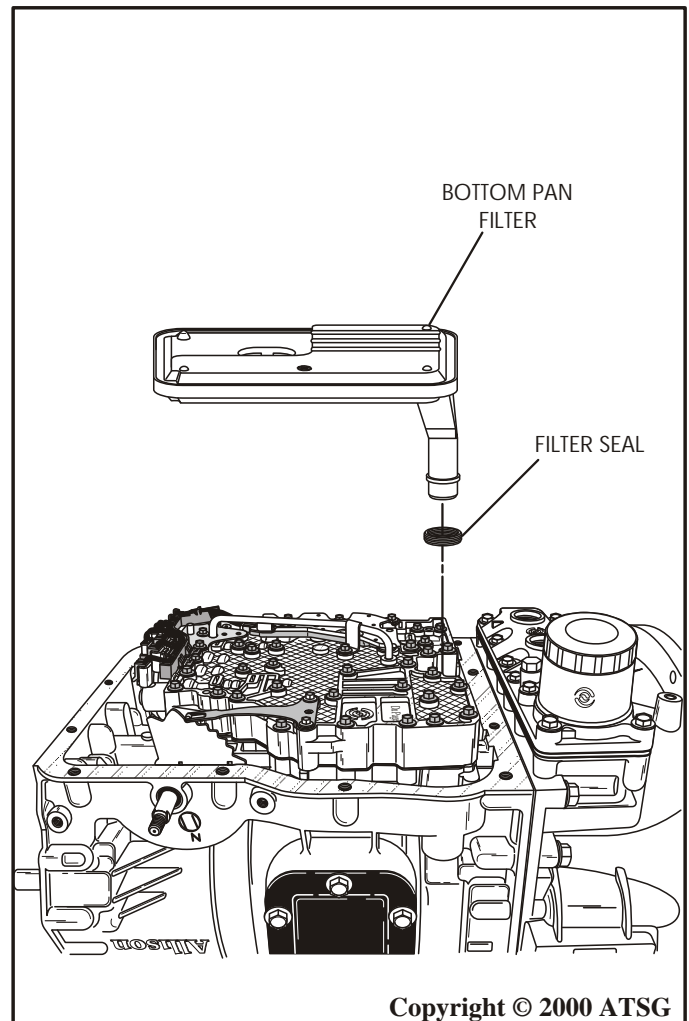

Figure 47
12. Remove and discard the bottom pan filter and filter seal, as shown in Figure 47.